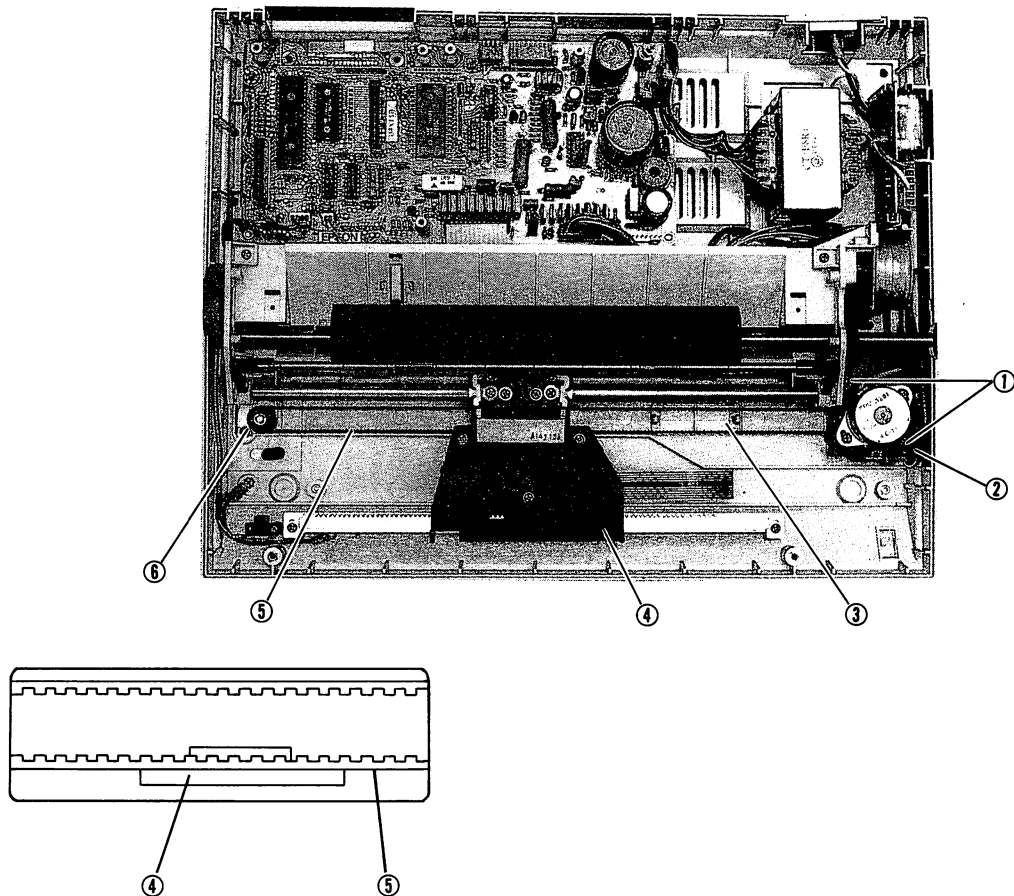

Fig. 4-14. Timing Belt Removal
4.2.15 Timing Belt Removal (Fig. 4-14)